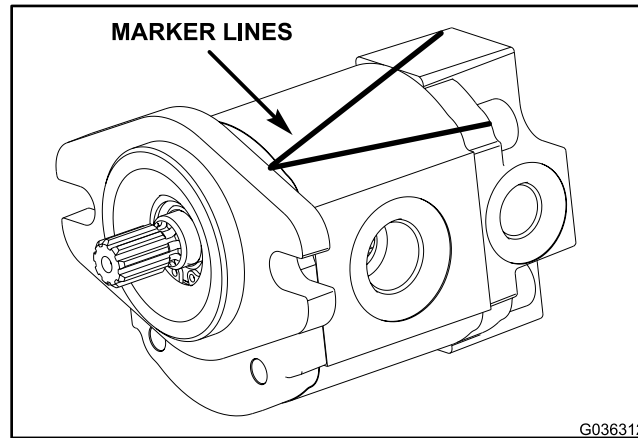

Figure 138
2. Use a marker to make a "V" across the front plate, body, and back plate for assembly purposes (Figure 138).